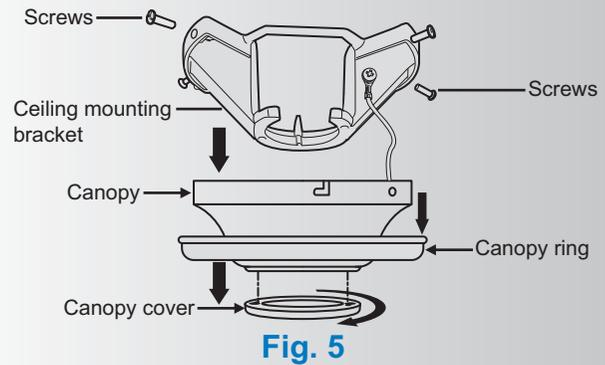

Fig. 5
Step 1. Remove the decorative canopy bottom cover from the canopy. (Fig. 5)
Step 2. Remove the decorative mounting screw cover from the canopy and loosen the four screws on the top of the canopy. Remove the two non-slotted screws and loosen the slotted screws. This will enable you to remove the ceiling mounting bracket. (Fig. 5)
Step 3. Remove the ceiling mounting bracket from the canopy by loosening the two screws on the bottom of the ceiling mounting bracket. Turn the canopy counterclockwise and remove. (Fig. 5)